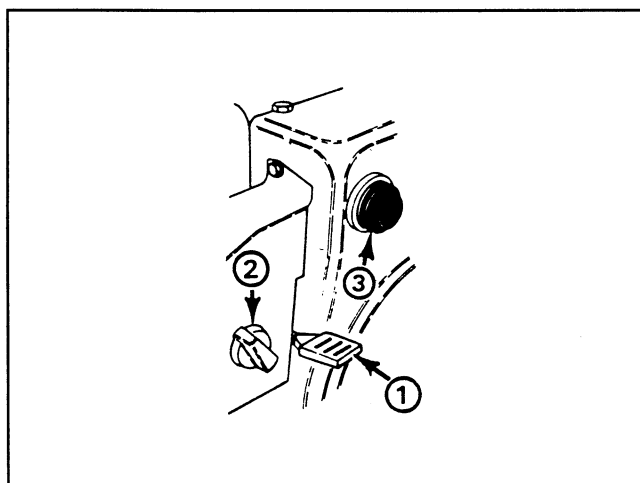

Figure 13
Throttle (Fig. 13)—Move throttle upward to increase the engine speed.
Choke (Fig. 13)—Rotate choke to ON position to start a cold engine. As engine warms up, rotate choke gradually to OFF.
Primer (Fig. 13)—Press primer to pump a small amount of gasoline into engine for improved cold weather starting.
4. Move choke to ON choke position (Fig. 13).
8. After engine starts, immediately move choke (Fig. 13) to 3/4 position. As engine warms up, move choke to 1/2 position; then to OFF position. If engine falters, return choke to 1/2 position. When engine warms sufficiently, move choke to OFF position.